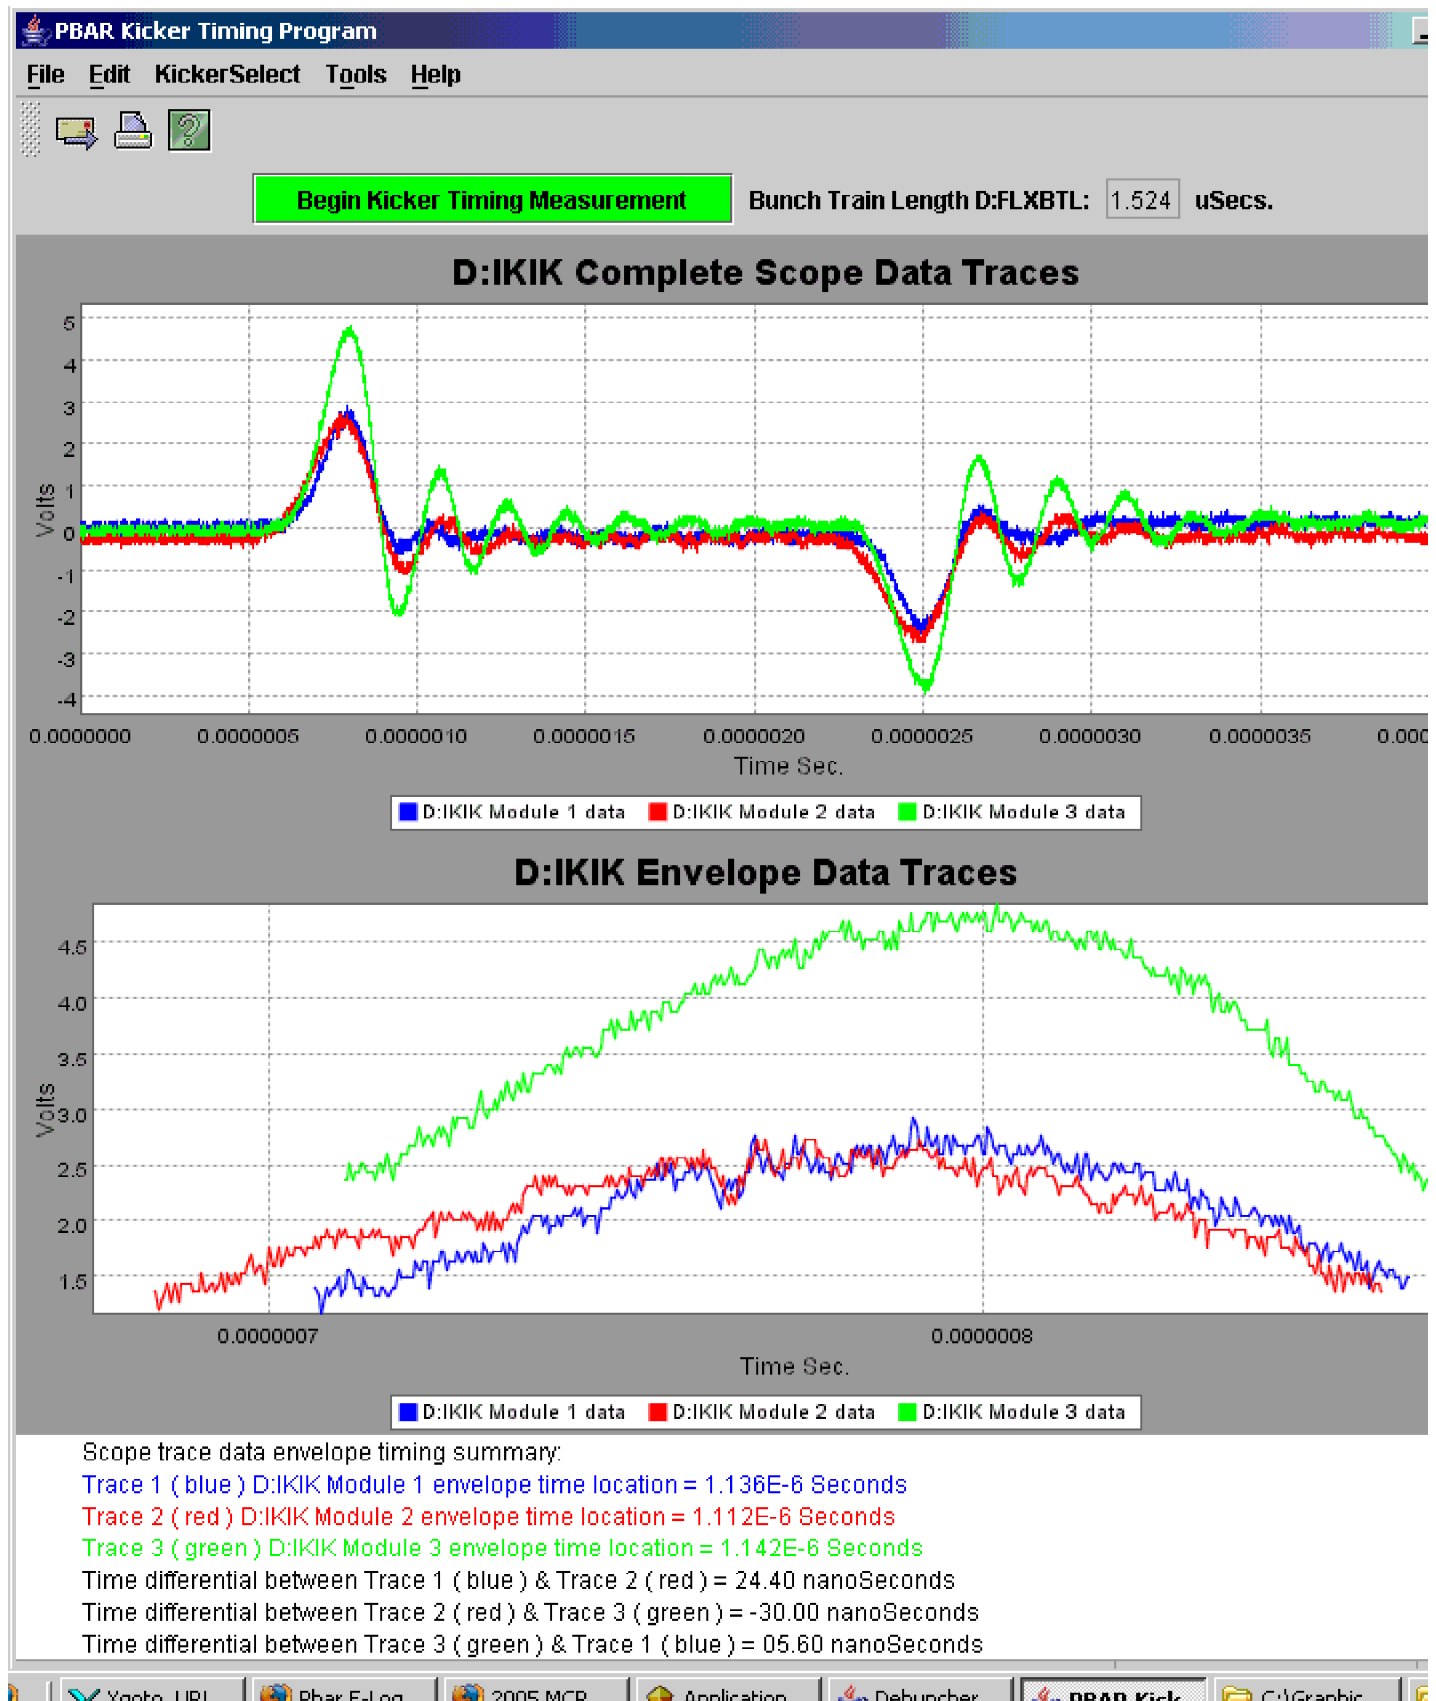

Figure 19: All images should have a figure number.
9. Examine the Pbar Kicker Timing application (see Figure 19) to see if the kicker trace alignment is converging. The value of D:FLXBTl should be the same or larger than that seen in Step 6. Click on the green box that is labeled "Begin Kicker Timing Measurement" as shown in Figure 19.